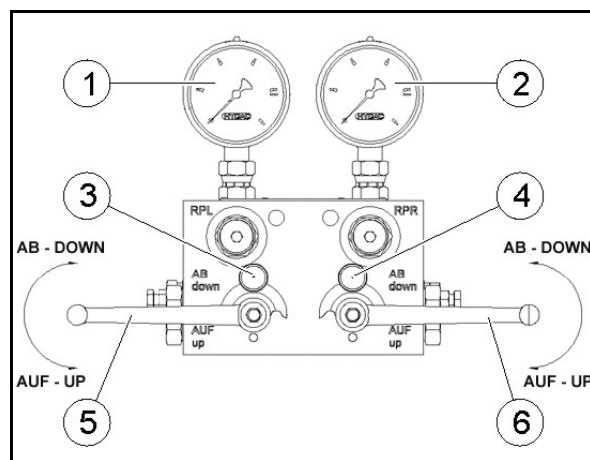

Fig. 40
With the machine being empty, the pressure gauges (1) and (2) display approx. 20 bar at the levelling valve (Fig. 40).